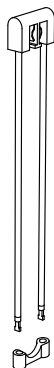

Fig. 1
1. Gently insert the two Luminaire Hanger rods into the holes on the top of the Luminaire Hanger Endcap. (Fig. 1)